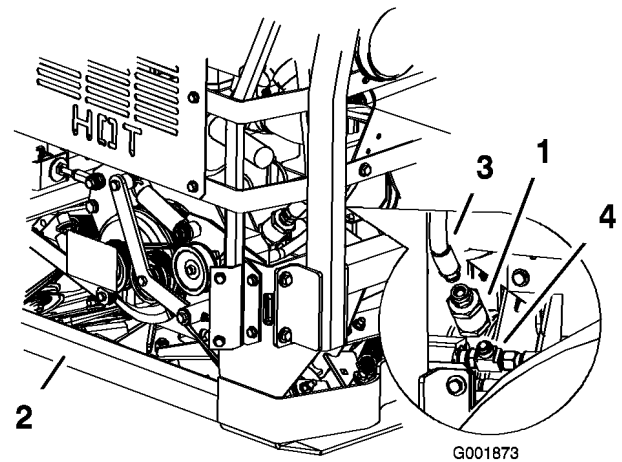

Figure 73
1. Place drain pan under filter, remove the hydraulic hose from the filter (Figure 73).
2. Remove the cooling fan hydraulic filter from the T-fitting on the bottom of the filter (Figure 73).
3. Install the filter to the T-fitting on the bottom and the hydraulic hose to the top (Figure 73).